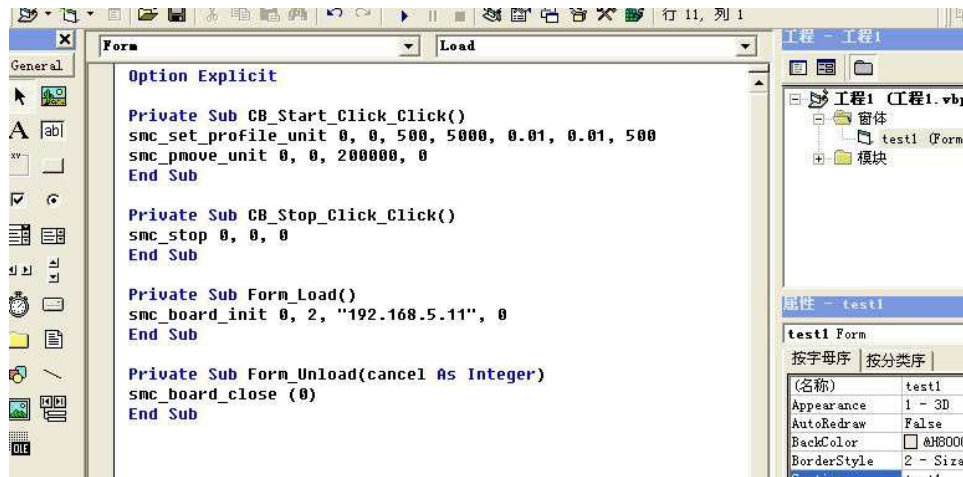

Fig. 1.8 Call library function of motion controller in program
- 6) Connect the controller via Ethernet port. Refer to the specific function instruction in Fig. 1.8.